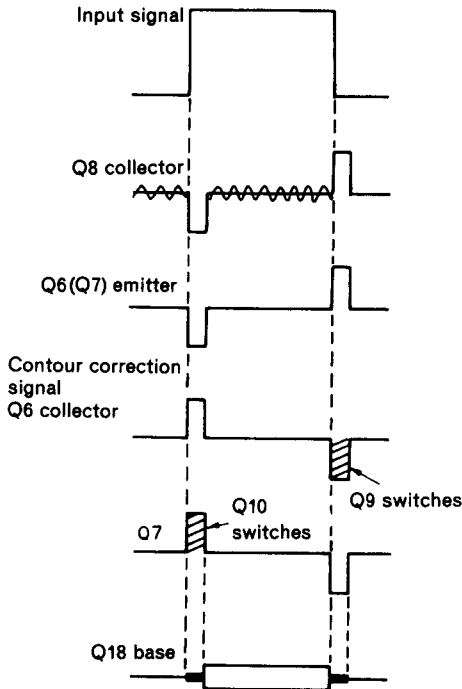

Fig. 3-21 False signal
VK-C830 uses this method, and together with this edge the method to reduce the false signal at the edge by switching operation is used. The Y signal output from Q22 with its sub-carrier modulated via the modulator in IC3 is sync-detected by IC4 via the comb filter DL3 becoming the signal as shown in Fig. 3-21 at the collector of Q8. The base line noise of this signal is suppressed and only the edge signal is derived at the emitter of Q6 (or emitter of Q7). RV6 is the balance adjusting resistor. Then, this is mixed in the luminance signal (Y) circuit as the vertical edge signal. At the same time, as the false signal is generated due to the difference from Y as described previously, this edge signal is averaged by mixing it with the Y_L signal (mixed by emitter of Q13) to reduce the false signal. By switching the chroma signal using this signal, coloring of this section is cancelled and the false signal is reduced. (Refer to Fig. 3-21) Q5 is the highlight chroma killer transistor.